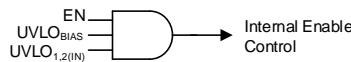

Figure 45. Simplified Turnon Control
Controlling when a single power supply turns on can be difficult in a power distribution network (PDN) because of the high power levels inherent in a PDN, and the variations between all of the supplies. The LDO turnon and turnoff time is set by the enable circuit (EN) and undervoltage lockout circuits (UVLO_{1,2(IN)} and UVLO_{BIAS}), as shown in Figure 45 and Table 2.